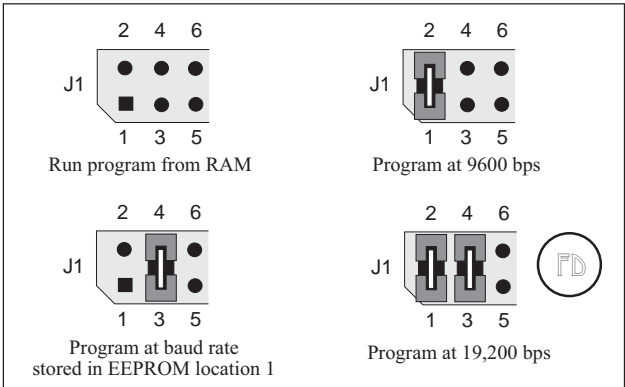

Figure 2-2. BL1600 Programming Jumper Settings for Header J1
2. Check jumper settings on header J1. Jumpers on header J1 define the hardware configuration, the mode, and the baud rate. Figure 2-2 shows the jumper settings for the various programming options.